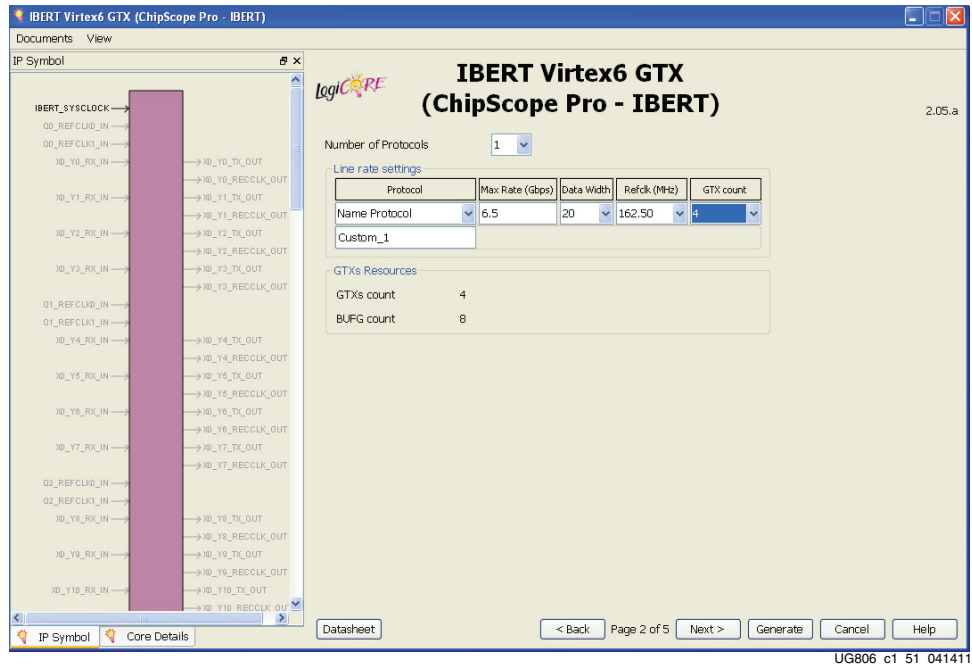

Figure 1-51: CORE Generator - IBERT GTX Customization - Page 2
10. Enter the information shown here and in Figure 1-51, then click **Next**: